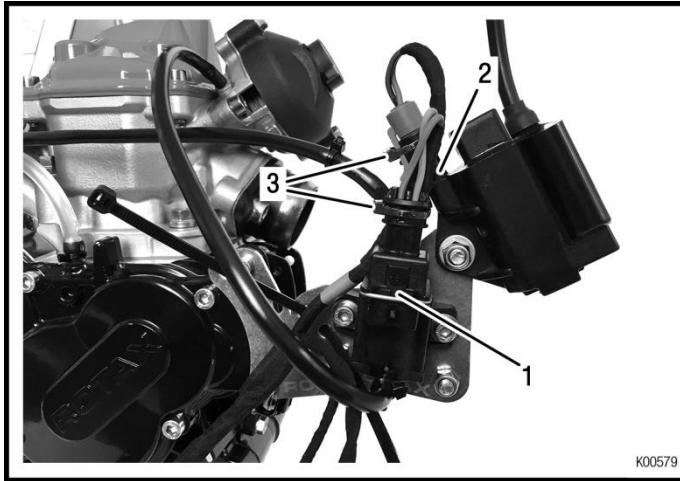

Fig. 25
- ➔ Connect solenoid valve (pos. 1) and ignition coil (pos. 2). Attach both connectors (signed green) (pos. 3) to the two components. See *Fig. 25*